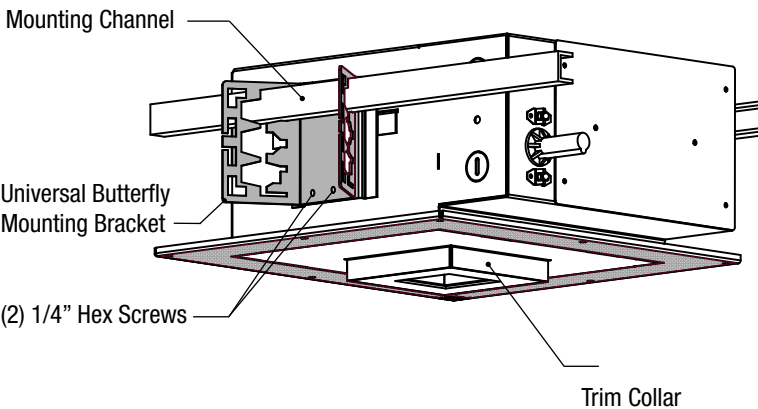

FIGURE 1
Step 5. ADJUST ELEVATION OF FIXTURE so that the edge of the TRIM OPTION will be flush with the surface of finished ceiling by loosening the two (2) 1/4" HEX SCREWS on UNIVERSAL BUTTERFLY MOUNTING BRACKETS and set accordingly **Fig 1**.
Step 6. Tighten the HEX SCREWS on both UNIVERSAL BUTTERFLY MOUNTING BRACKETS to secure fixture **Fig 1**.